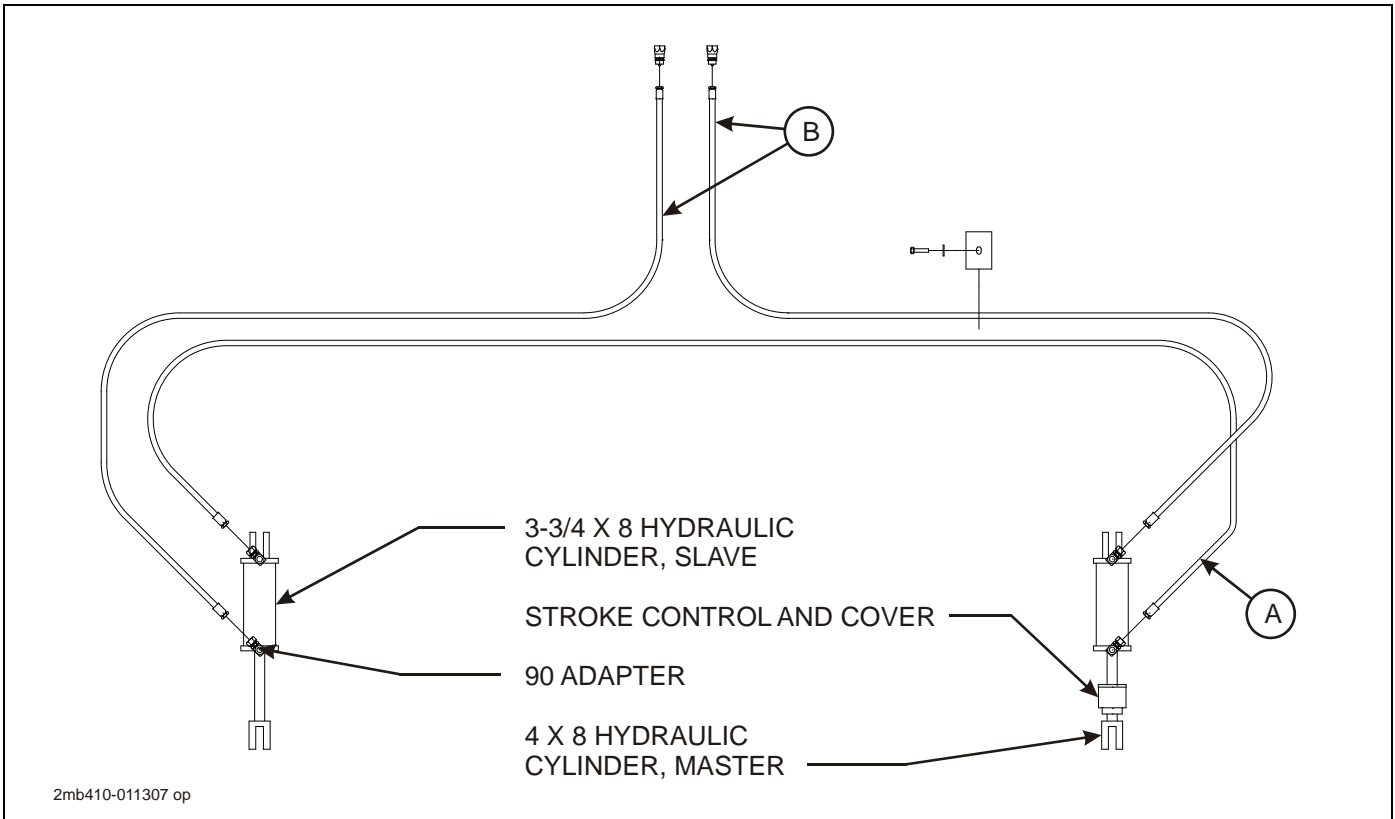

Figure 3-6: Hydraulic Lift Assembly - Rigid Models
6. Install hoses (See Figures 3-6 and 3-7 and Table 3-1).